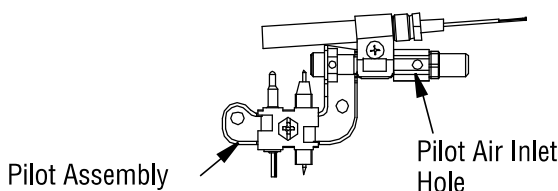

Figure 52 - Pilot Inlet Air Hole (Your pilot may vary from pilot shown)
- Clean pilot assembly also. Additional cleaning may be needed for proper pilot operation based on use/lack of use. A yellow tip on the pilot flame may indicate dust and dirt in the pilot assembly. There is a small pilot air inlet hole about from where the pilot flame comes out of pilot assembly (*see Figure 52*). With unit off, lightly blow air through air inlet hole. You may blow through a drinking straw if compressed air is not available.